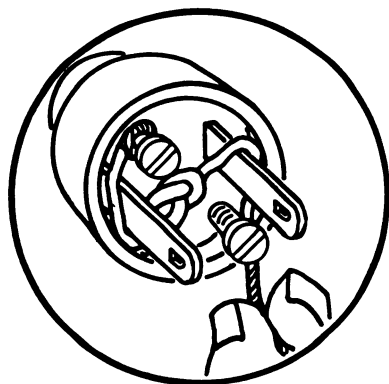

Fig. 8
8. Pull one wire around each terminal to the screw. (Fig. 8)